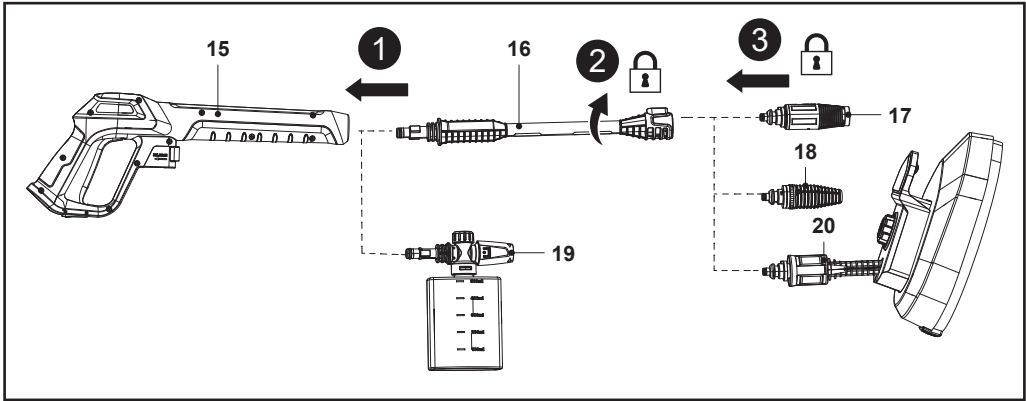

Fig. 3
1. Align and insert the extension lance (16) or detergent bottle nozzle (19) into the socket of the spray gun (15) (Fig. 3, step 1).
2. Push and turn the extension lance (16) or detergent bottle nozzle (19) clockwise onto the spray gun (15) until hand tight to lock it in place (Fig. 3, step 2).
3. Align the two nozzle taps with the slots of the extension lance (16), then insert the turbo nozzle (17), variable nozzle (18) or patio brush (20) until the end (Fig. 3, step 3).